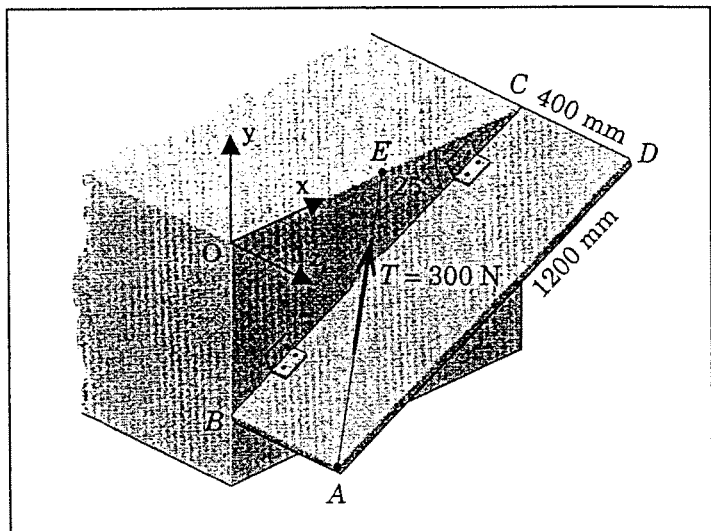

Figure 2
- In Figure 2 below, the hood of the automobile is supported by the strut AB, which exerts a force of  $F = 24$  N on the hood. Determine the moment of this force about the hinged axis y.
2. In Figure 2 below, the rectangular plate is supported by hinges along its side BC and by the cable AE. If the cable tension is 300 N, determine the moment of the force about the axis of the hinges. Note that E is the midpoint of the horizontal upper edge of the structural support.